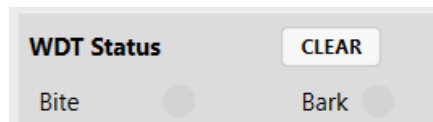

Figure 32: Watchdog Status Monitor
27. Figure 32 shows the watchdog status monitor.